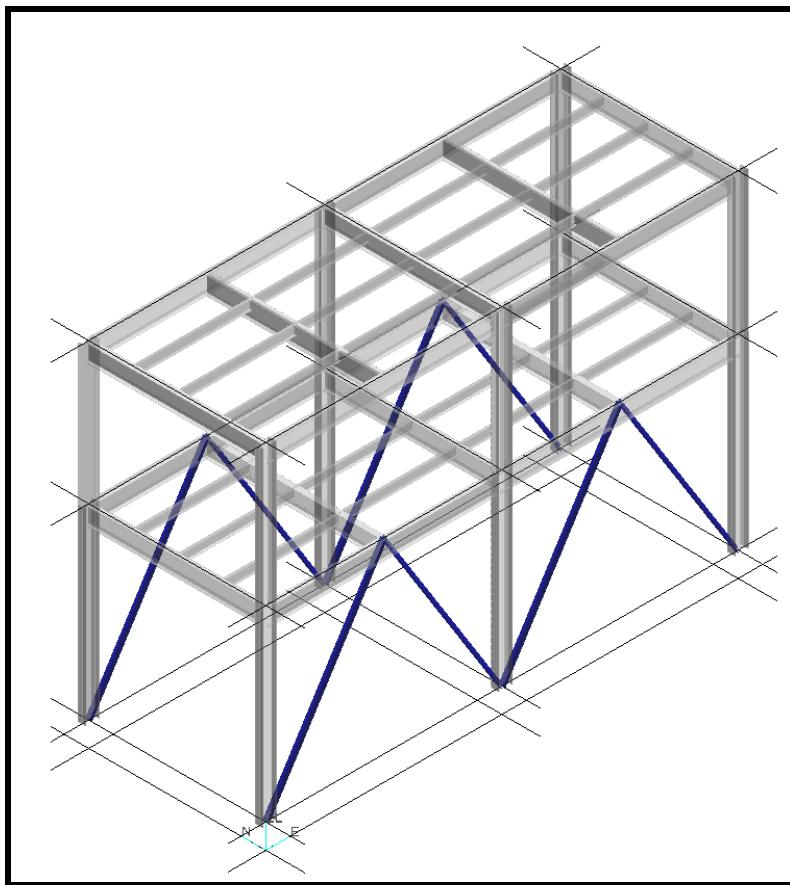

Figure 8 –Isometric View of the Structure U02
17. Repeat the above workflow to place the other vertical braces as shown in figure 8.